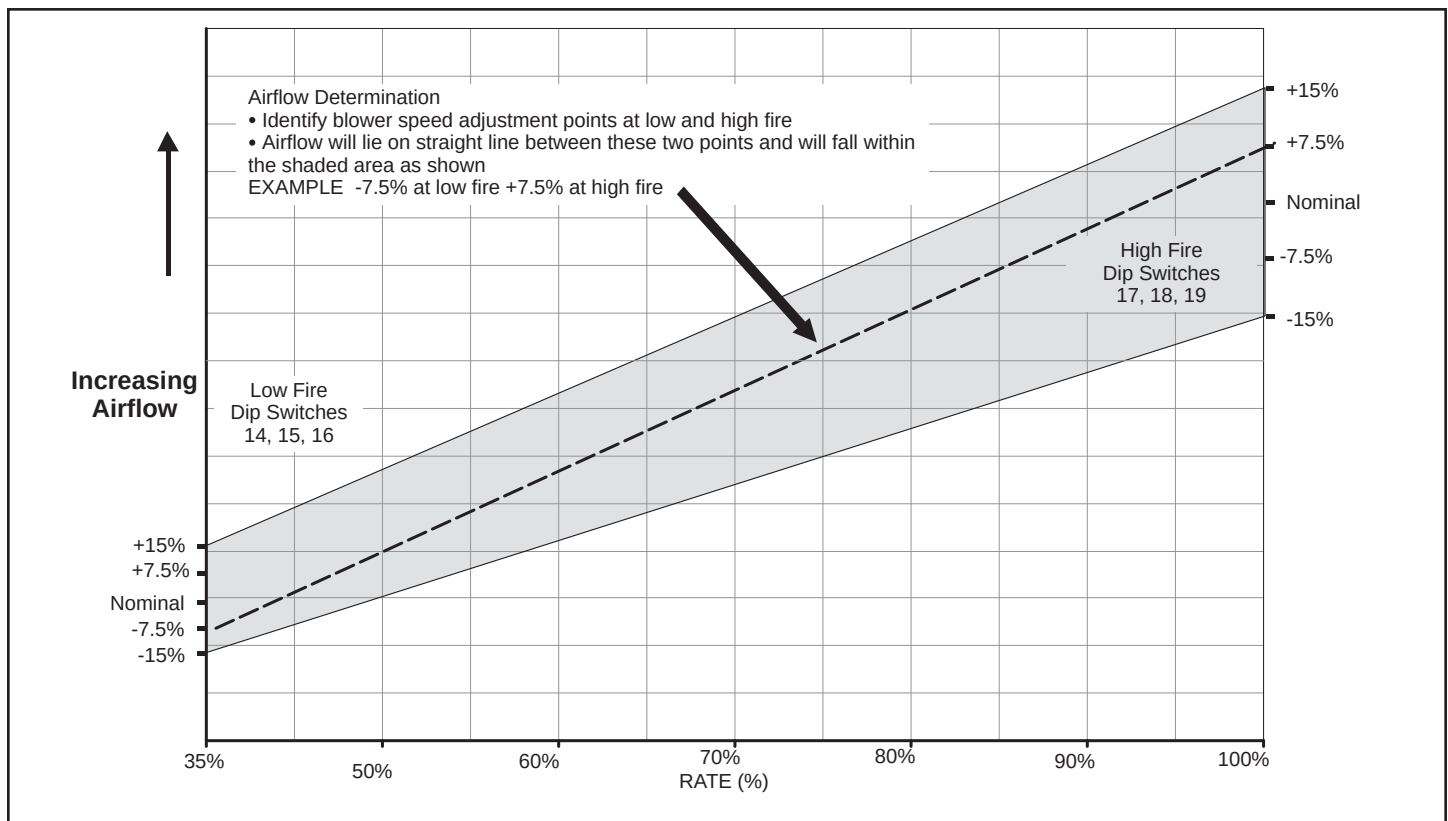

Figure 6.
-- Switches 14 through 19 are used to select heating mode blower motor speeds. These switches are factory set at the OFF position which provides 100 % of normal speed during HIGH HEAT demand, 70% of normal speed during MIDRANGE HEAT demand and 35% of normal speed during LOW HEAT demand. Switches 14, 15 and 16 are used to adjust the LOW FIRE blower motor speed. Switches 17, 18 and 19 are used to adjust the HIGH FIRE blower motor speed. **Figure 6** and **Table 11** and **Table 12** provides the heating mode blower speeds that will result from different switch settings. **Figure 6** indicates the effect the DIP switch settings have upon the heating airflow at various furnace firing rates.